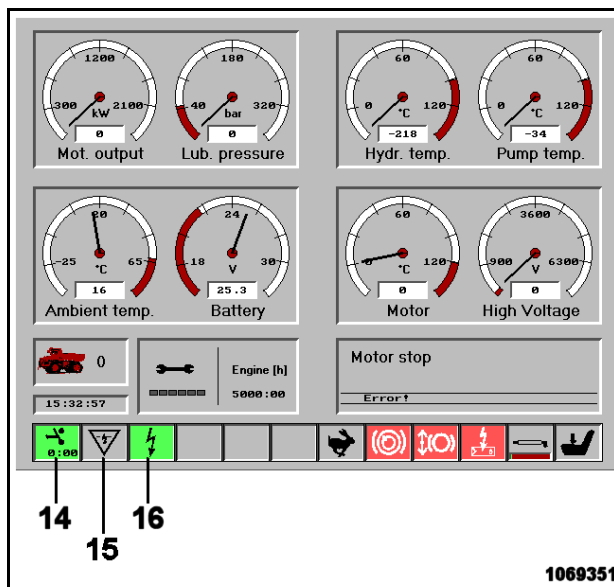

Fig. 2-66:
- Check telltales (14 and 16, Fig. 2-66:), they must lit up in green colour.
If telltales didn't lit up in green colour, BCS has detected critical operating conditions or faults which prohibit starting the electric motor. BCS indicates this case with telltales (for instance 15, Fig. 2-66:) as well as by displaying corresponding text.